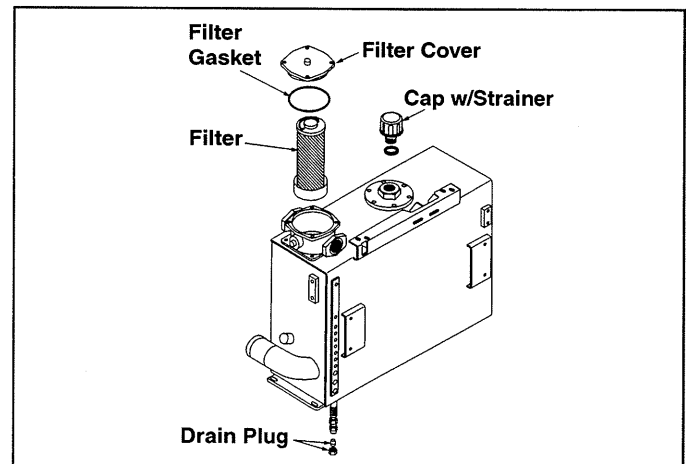

Figure 4-11. Hydraulic Oil Tank
6. Slowly open the cap to relieve pressure (Figure 4-11).
4. Slowly open the cap to relieve pressure (Figure 4-11). Remove cap and clean strainer of any debris.
5. Open the drain plug (Figure 4-11) and drain oil into a suitable container. Re-install drain plug and tighten securely.
6. Remove four bolts and filter cover (Figure 4-11). Remove and discard old filter. Put clean hydraulic fluid on the filter gasket and install gasket and new filter into tank.
8. Fill tank with hydraulic oil until oil level is between red and black marks on indicator (Figure 4-11).